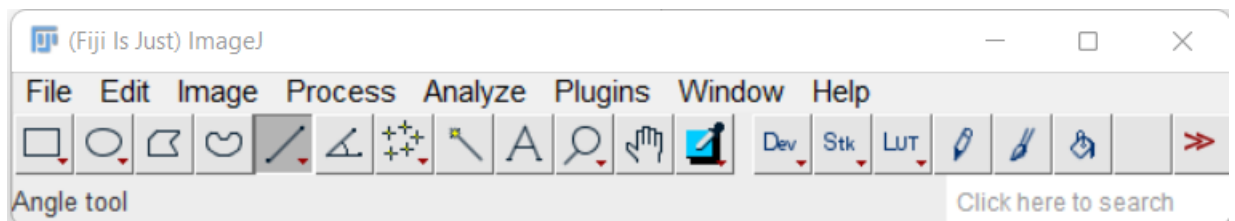

Figure 3: Selection of the line tool
- b) Select the line tool (figure 3).